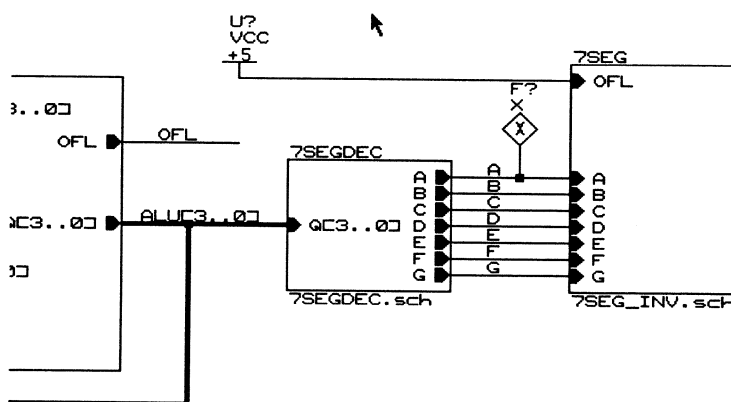

Figure 11-32 Adding a VCC Component
10. Move the cursor so that the bottom of the VCC symbol makes a connection to the net that was formerly OFL, as shown in Figure 11-32.